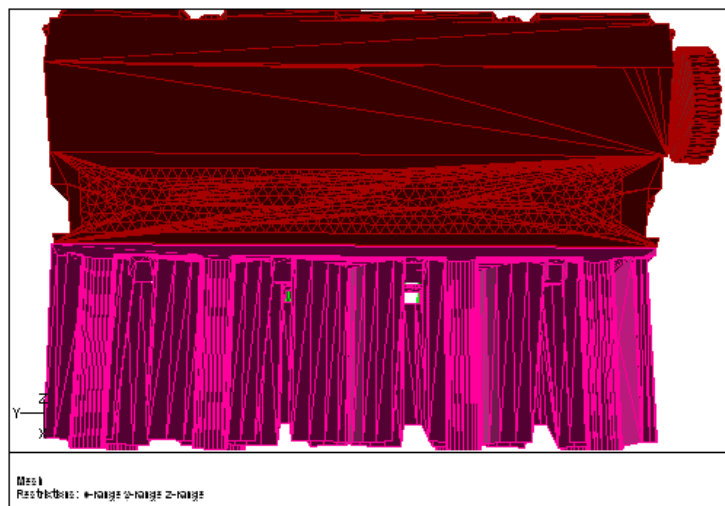

Figure 7.10: Holes Closed in the f_v8-top-left Zone Using a Plane Surface
- (h) Click Display in the Display Grid panel to see the recently closed holes (Figure 7.10).